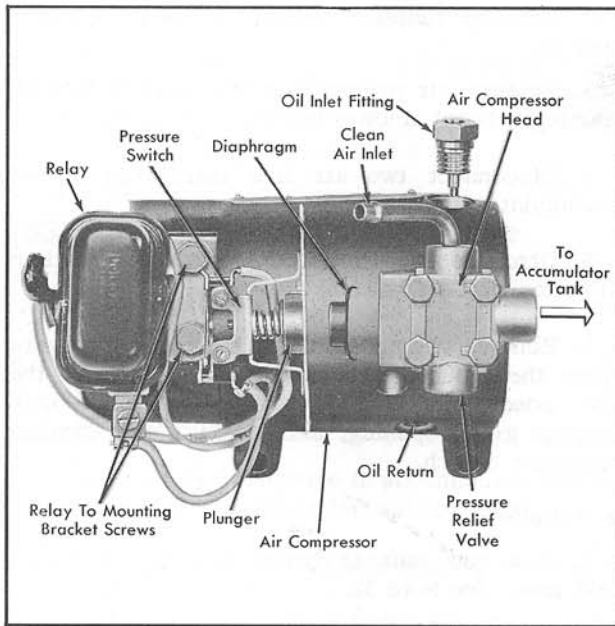

Fig. 4-15 Air Compressor Service
3. Disconnect accumulator tank air line at compressor, Fig. 4-15.
NOTE: The pressure switch cover has been removed and the pressure switch and diaphragm separated from the compressor head for illustrative purposes, Fig. 4-15.
To install pressure switch, reverse the above procedure, making certain that rubber diaphragm is installed with raised side facing pressure switch plunger, Fig. 4-15.
3. Remove oil inlet fitting from top of air compressor, Fig. 4-15.